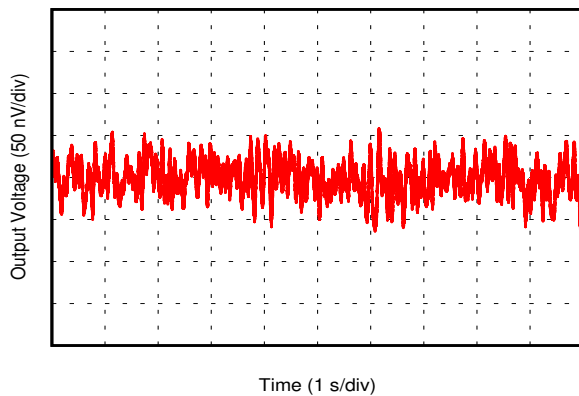

Figure 7-17. 0.1-Hz to 10-Hz Voltage Noise
0.1-Hz to 10-Hz Voltage Noise	Figure 7-17